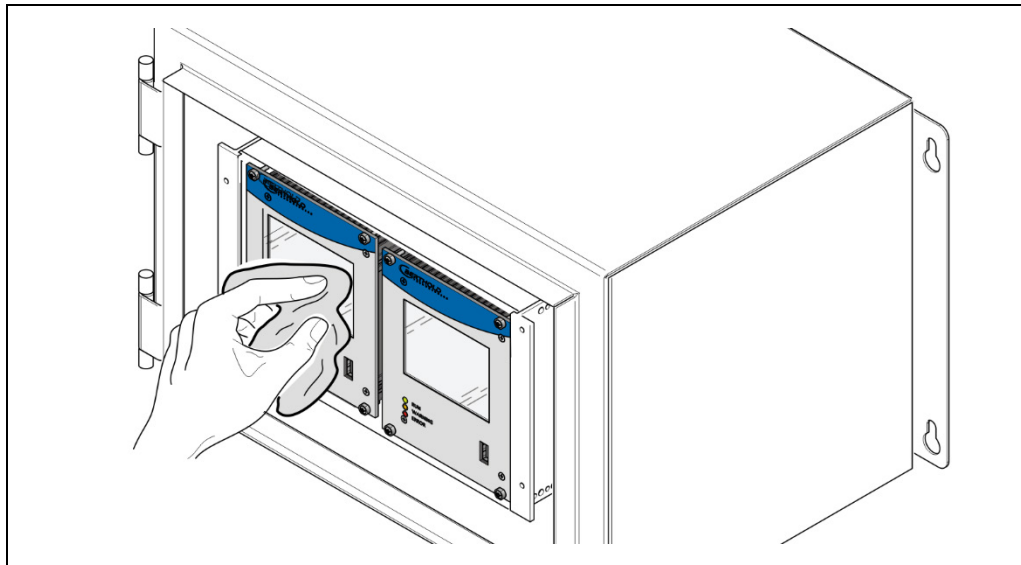

Fig. 115 Cleaning the display
2. Loosen the four fixing screws (Fig. 115, item 1) and remove the EVU from the wall housing or subrack.
3. Loosen the four sunken screws on the front side of the EVU (Fig. 115, item 2).
4. Pull out the housing (Fig. 115, item 3) carefully.
5. Remove the protective covering of the fuse (Fig. 115, item 4)
6. Remove the fuse (Fig. 115, item 5, item 7).
9. Screw the front panel to the housing with the four screws (Fig. 115, item 2).
11. Tighten all fixing screws (Fig. 115, item 1).